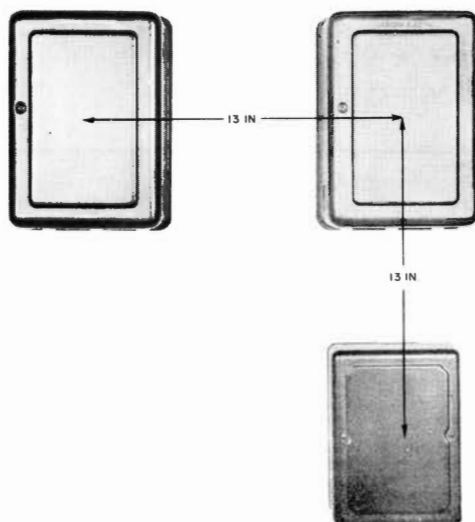

Fig. 4 — Subscriber Set Separation to Prevent Cross Induction
5.05 Subscriber sets equipped with 425B networks or closed induction coils (101-type with B- or C-type ringers) may be mounted side-by-side or one above the other without causing crosstalk. To avoid crosstalk, subscriber sets equipped with other types of coils and ringers (open core) should be placed a minimum of 13 inches apart, measured center-to-center (see Fig. 4).